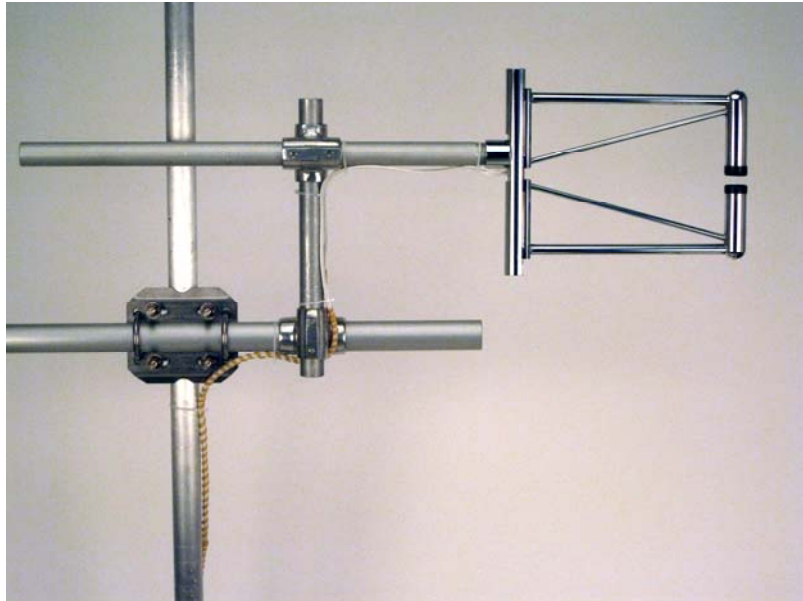

Figure 1. Mounting KH20 onto a tripod.
4. Mount the KH20 onto the 12" long pipe using a 3/4" x 3/4" Nu-rail (#1017). Mount the KH20 such that the source tube, the longer of the two tubes, is positioned on top, as shown in Figure 1. Gather any loose cables and tie them up, using cable ties, onto the tripod or tower mast.